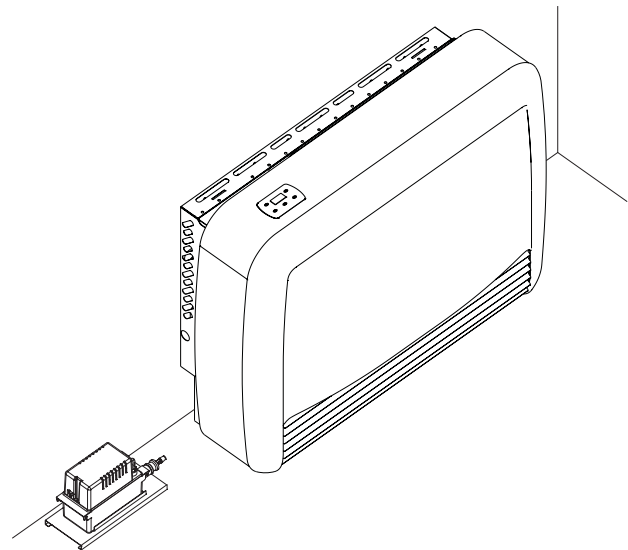

Figure 1
1. Place condensate pump box base and condensate pump on floor near the wall furnace within reach of the wall furnace's 4ft drain hose. Make sure that the pump is located below the condensate trap inside of the wall furnace and is sitting level to ensure proper operation of the on/off and safety switch floats located inside of the pump. **See Figure 1.**